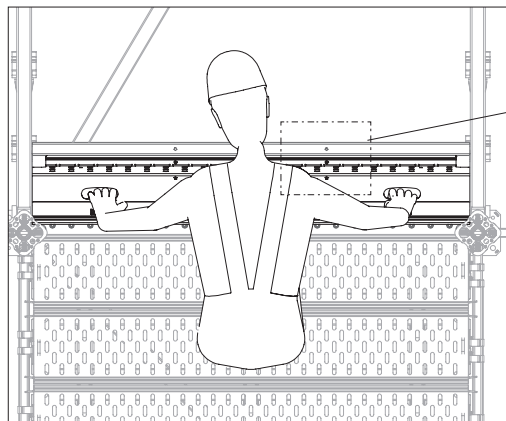
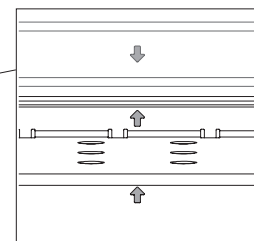

Fig. A4.03
Fig. A4.03a
3. Align the installation position using the arrow markings. (Fig. A4.03 + Fig. A4.03a)